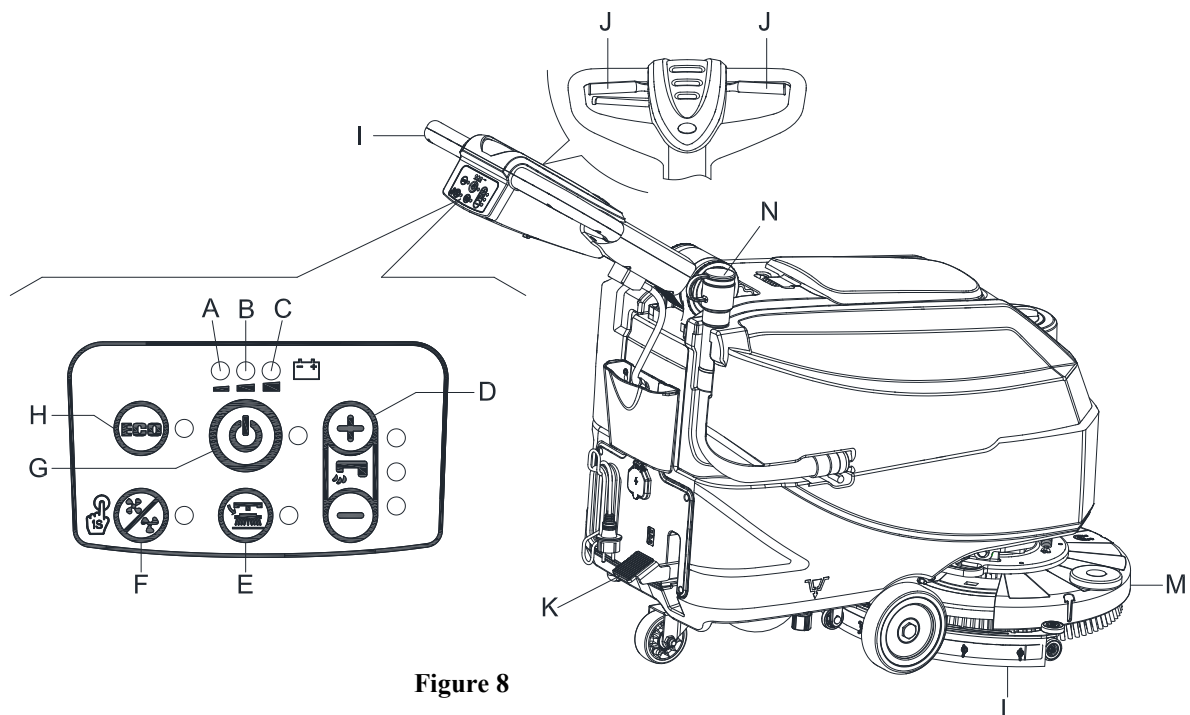
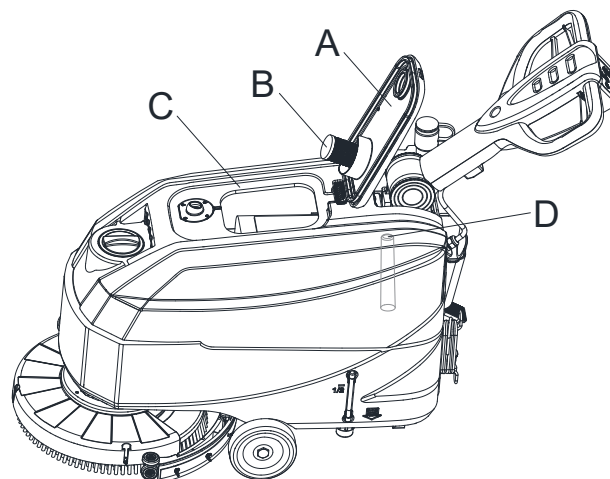

Figure 8
Figure 10
2. Push the machine to the area to be cleaned, by pushing it with the hands on the handlebar (I, Figure 8).
3. Lower the brush/pad-holder deck (M, Figure 8) and the squeegee (L) by lifting the pedal (K).
4. Press the start switch (G, Figure 8). Check that the green warning light (C) turns on (charged battery). If the yellow (B) or red warning light (A) turns on, Shutoff the power switch (G, Figure 8) and charge the batteries (see the procedure in Maintenance chapter).
5. Press the washing water flow control switches (D, Figure 8) as necessary, depending on the type of cleaning to be performed.
6. Start cleaning by pushing the machine with the hands on the handlebar (I) and pressing the safety switch lever (J).
To move the machine forward, press either the left or right safety switch lever (J, Figure 8) or both.
2. While keeping both hands on the handlebar press the safety switch lever (J, Figure 8), then manoeuvre the machine and start scrubbing/drying the floor.
While the green warning light (C, Figure 8) stays on, the batteries allow the machine to work normally. When the green warning light (C) turns off, and the yellow warning light (B) turns on, it is advisable to charge the batteries, because the remaining charge will last for a few minutes (depending on battery characteristics and work to be performed). When the red warning light (A) turns on, batteries are fully discharged. After a few seconds, the brush/pad-holder is automatically turned off.
An automatic float shut-off system (B, Figure 10) blocks the vacuum system when the recovery water tank (C) is full. The vacuum system deactivation is signaled by a sudden increase in the vacuum system motor noise frequency, also the floor has not dried.
If the vacuum system turns off accidentally (for example, when the float is activated because of a sudden machine movement), to resume the operation: turn off the vacuum system by pressing the switch (G, Figure 8), then open the cover (A, Figure 10) and check that the float inside the grid (B) has gone down to the water level. Then close the cover (A) and turn on the vacuum system by pressing the switch (G, Figure 8).
When the recovery water tank (C, Figure 10) is full, empty it according to the following procedure.
2. Lift the brush/pad-holder deck (M, Figure 8) and the squeegee (L) by pressing the pedal (K).
4. Empty the recovery water tank with the hose (N, Figure 8). Then, rinse the recovery tank (C, Figure 10) with clean water.
5. Remove the recovery tank lid (A, Figure 10) and clean the inside of the cover and the filter floater grid (B) with clean water.
6. Check the recovery tank (D, Figure 10) whether there is foreign body jam and clean it.